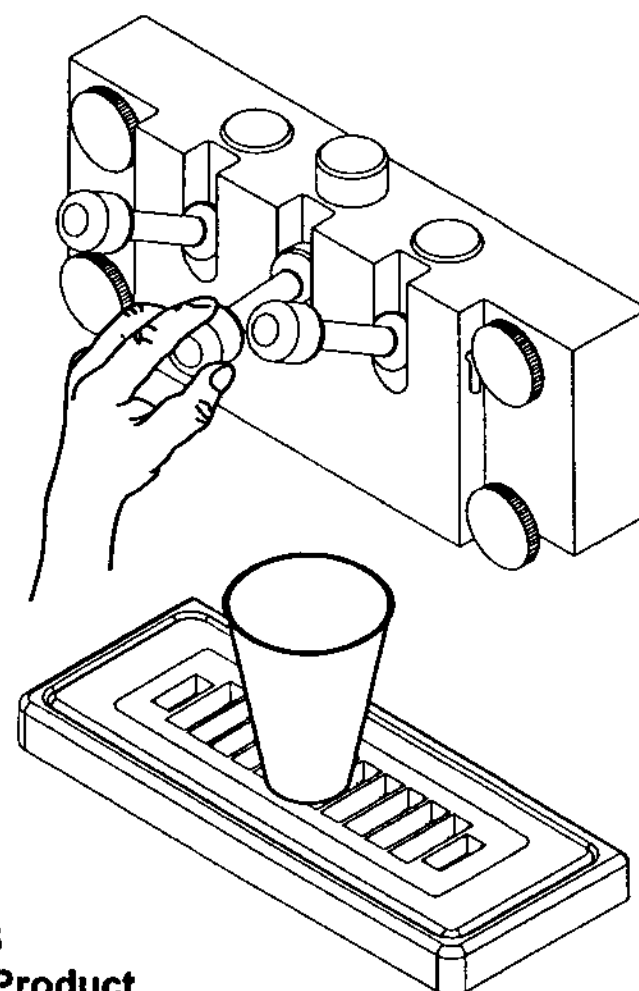

Fig. 6
- Remove the o-rings from the spigot plunger by grasping the part with one hand and with a dry cloth in the other hand, squeeze the o-ring upward. When a loop is formed, grasp the o-ring with the other hand and roll it out of its groove and off the part (Fig. 6).
2. Set each control switch (Fig. 2) to the "CLEANOUT" position and dispense all product from the freezing cylinder by pulling downward on the spigot handle (Fig. 6) to empty the machine.
4. Set each control switch (Fig. 2) to the "CLEANOUT" position and agitate for approximately 1 - 2 minutes and then drain the water by opening the spigots (Fig. 6). After the unit is empty, set the control switches to the "OFF" position.